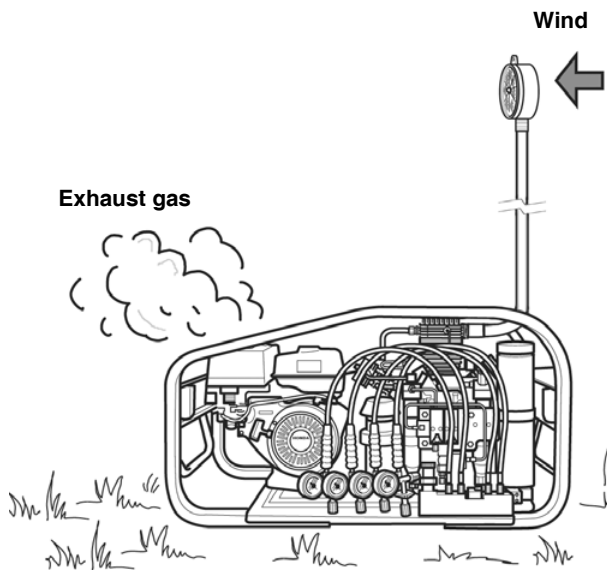

Abb. 11 Outdoor location
- On units with petrol engine it is most important that only clean air be used, position compressor in direction of wind so that exhaust fumes are blown away from the unit. It is good practice to have an intake hose of at least 3 m length with pre-filter and intake filter. Pre-filter to be located 2 m above ground. See Abb. 11 and chapter 4.5.1. This arrangement will ensure necessary spacing between exhaust outlet and air inlet.